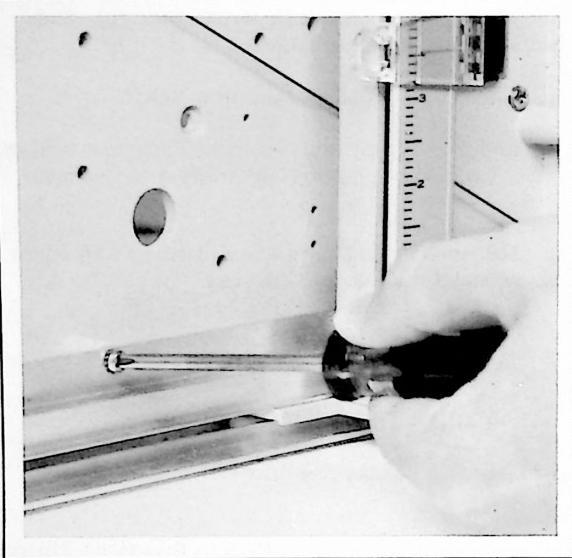

Figure 5-17. X-Axis Alignment Adjustment
- b. Loosen three Phillips screws holding paper stop bar after scribing ends of bar to index position. See Figure 5-17. Adjust bar, depending upon initial deviation of pen trace, forward or backward. Use scribed marks as reference.